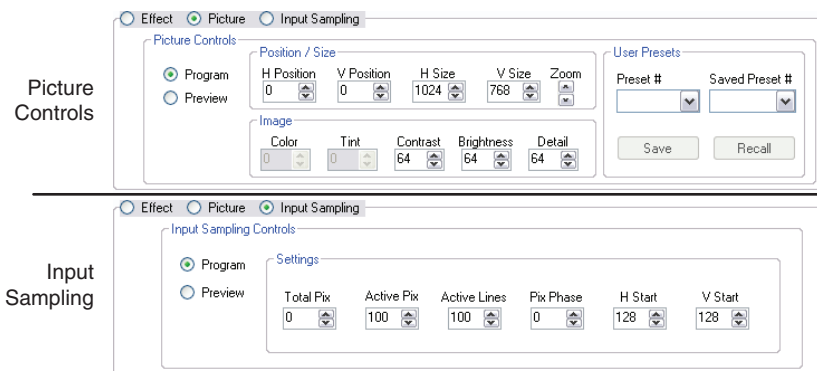

Figure 5-5 — Picture control and Input Sampling buttons
- The Picture radio button selects picture control adjustments that provide the same functions as the Picture Adjustment buttons on the front panel (figure 5-5). See chapter 3, “Operations” for more information about these settings.
- The Input Sampling radio buttons select input sampling controls that provide the same functions as the Input Configuration menu (figure 5-5). See chapter 3, “Operations” for more information about these settings.